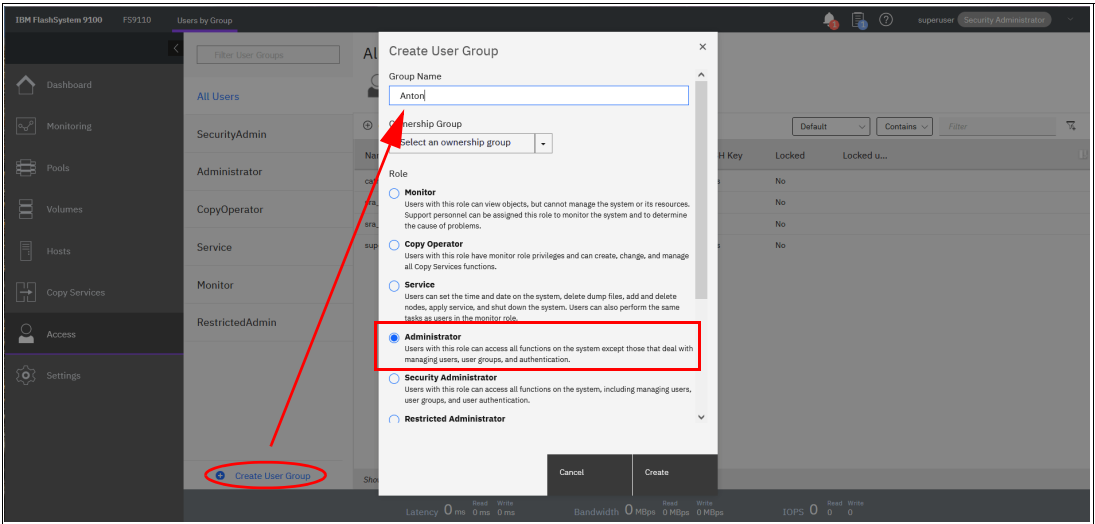

Figure 4-59 Defining a User Group
2. Select **Create User Group**, as shown in Figure 4-59.